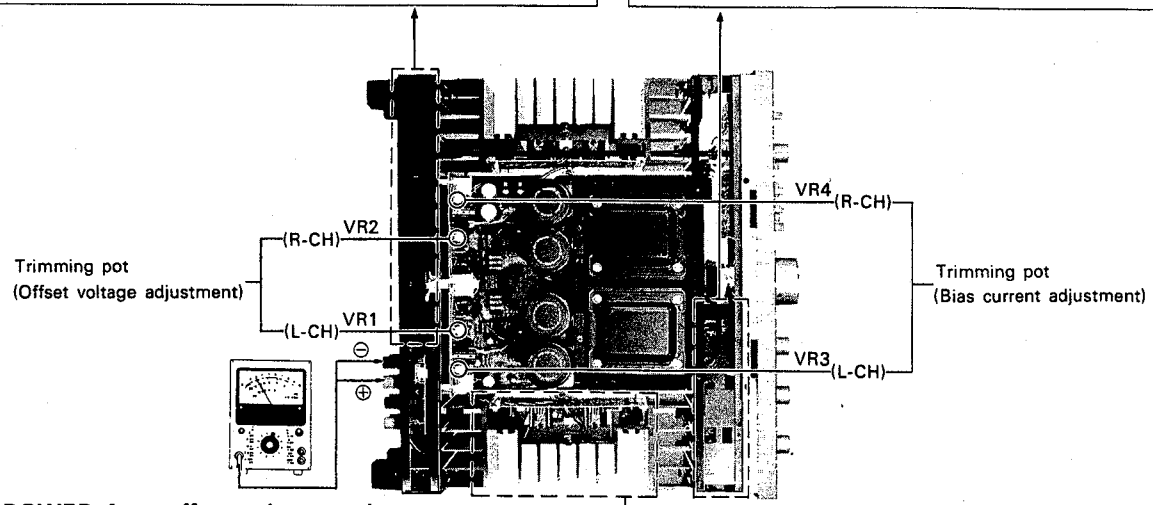

Fig. 3. POWER Amp offset voltage and Bias current adjustment
3. Adjust the trimming pot. VR3 (VR4), as shown in Fig. 3, for 20 mV reading of the voltmeter.